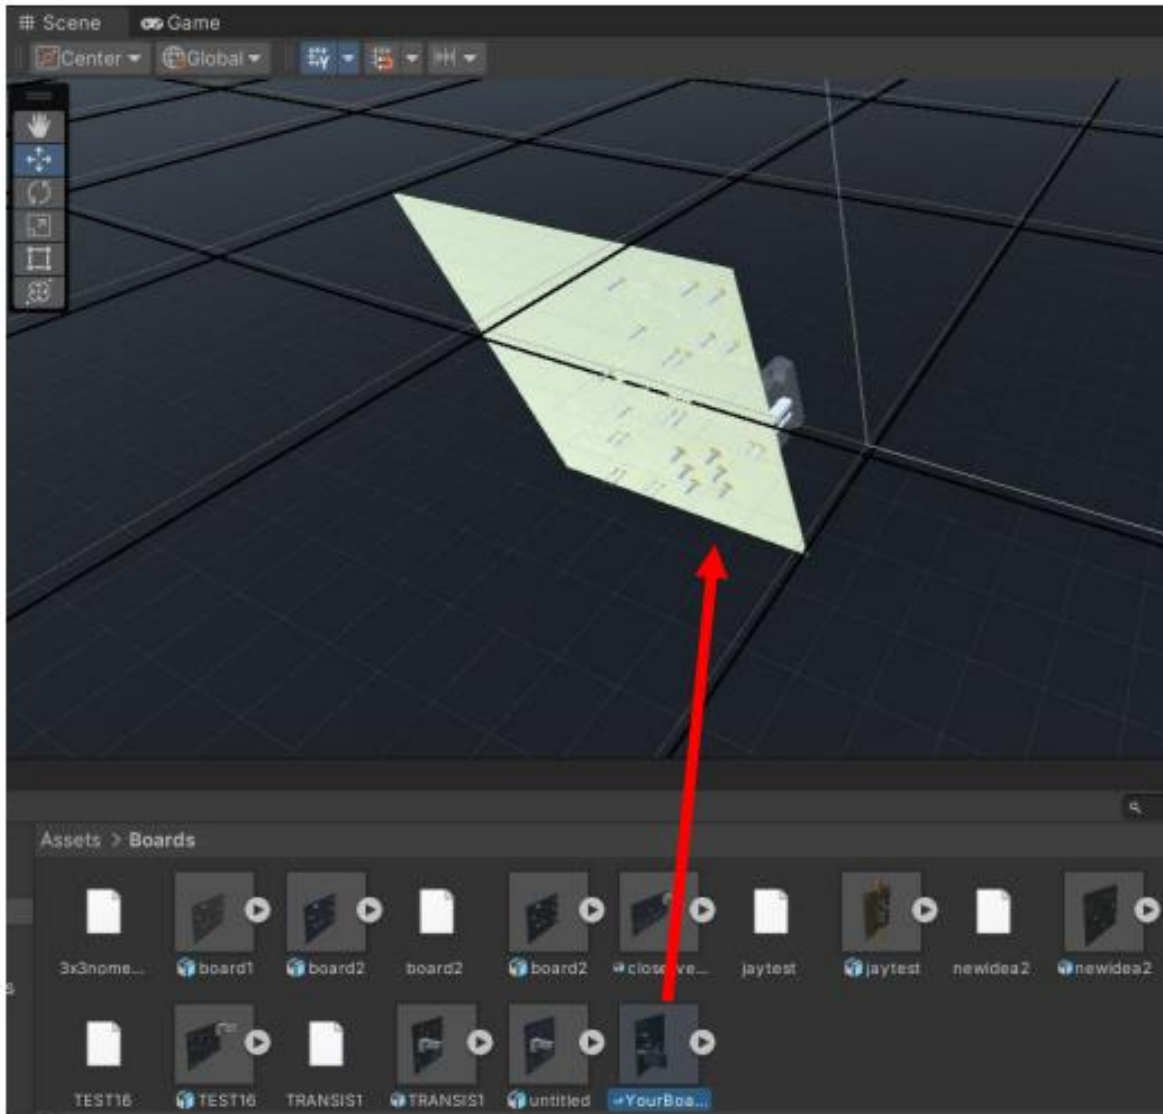

Figure 11: Dragging in the PCB
- b. Click on your board and drag it into the Scene View. It does not matter where it is placed in the Scene, as through the following steps and the background code, it will be placed for you. Figure 11 demonstrates this task (Disregard excess boards shown in figure).